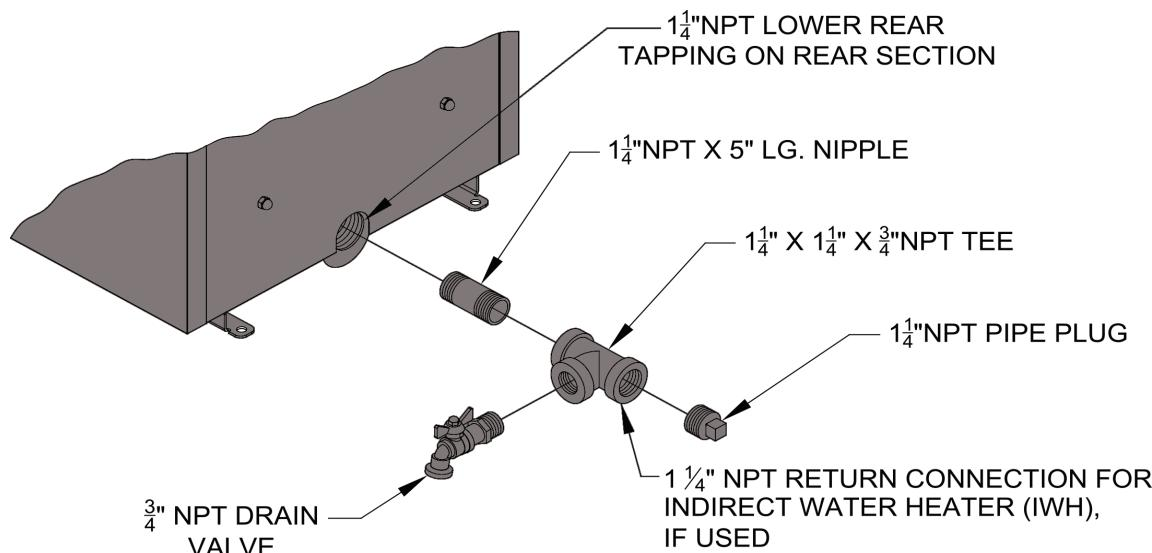

Figure 6: Piping Arrangement for Drain Valve and Indirect Water Heating Return
2. Install drain valve and indirect water heater return piping, see Figure 6.